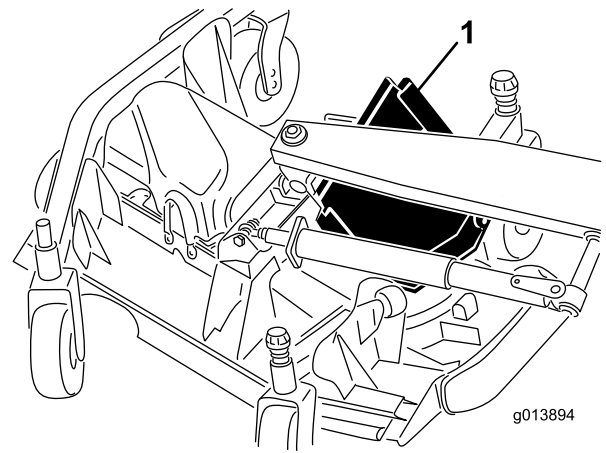

Figure 48
6. Lift the front edge, guide it between the lift arm and the roller to remove it (Figure 48).